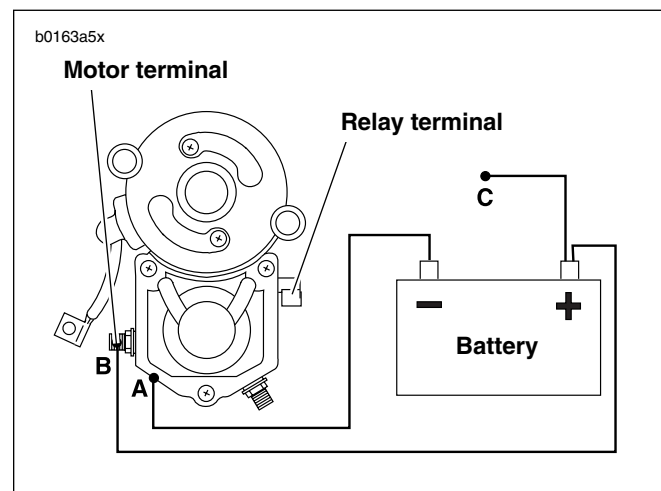

Figure 5-13. Return Test
1. See Figure 5-13. With test leads still connected in the manner specified at the end of the previous SOLENOID HOLD-IN TEST, **disconnect solenoid relay terminal/positive battery post test lead (C) at either end.**